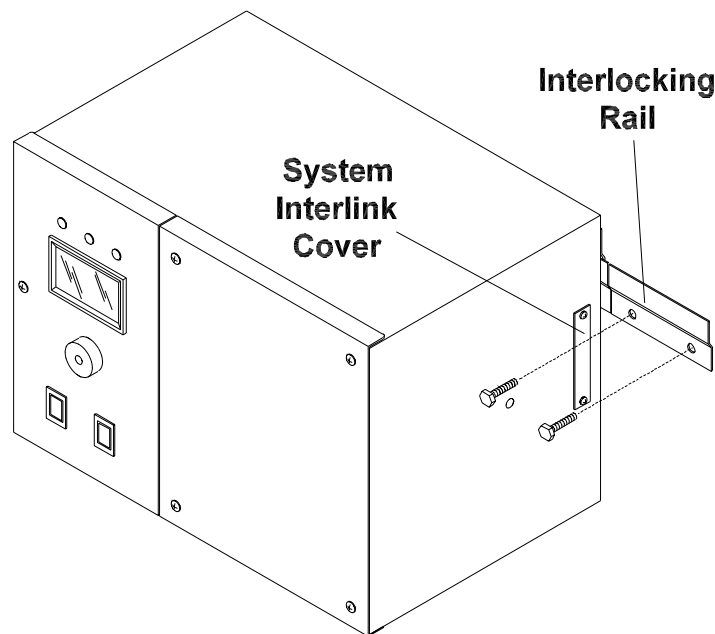

Figure 3.3 Removing the System Interlink cover and mounting the Interlocking Rail
Step 2: Remove the System Interlink Cover, located on the right-hand side of the Prolink main data chassis. Refer to figure 3.3.
Step 4: Mount the provided interlocking rail end to end with the existing interlocking rail. Make sure they are both in-line and level. Refer to *figure 3.3*.